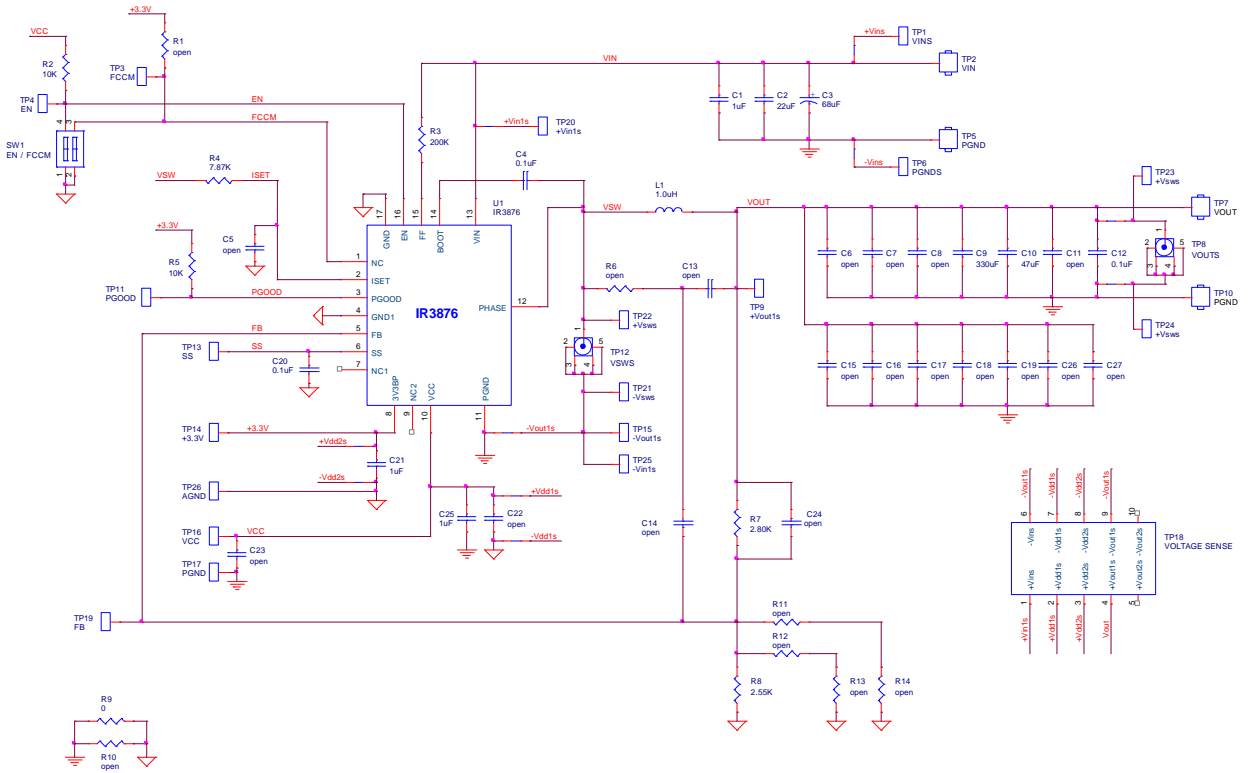

Figure 7. Typical Application Circuit for  $V_{OUT} = 1.05V$ ,  $F_s = 300kHz$
Tested with demoboard shown in Figure 7,  $V_{IN} = 12.6V$ ,  $V_{CC} = 5V$ ,  $V_{out} = 1.05V$ ,  $F_s = 300kHz$ ,  $T_A = 25^\circ C$ , no airflow, unless otherwise specified
Tested with demoboard shown in Figure 7, VIN = 12.6V, VCC = 5V, Vout = 1.05V, Fs = 300kHz, TA = 25°C, no airflow, unless otherwise specified
- For applications with all ceramic output capacitors, the ESR is usually too small to meet the stability criteria. In these applications, external slope compensation is necessary to make the loop stable. The ramp injection circuit, composed of R6, C13, and C14, shown in Figure 7 is required. The inductor current ripple sensed by R6 and C13 is AC coupled to the FB pin through C14. C14 is usually chosen between 1 to 10nF, and C13 between 10 to 100nF. R6 should then be chosen such that  $L/DCR = C13 \cdot R6$ .